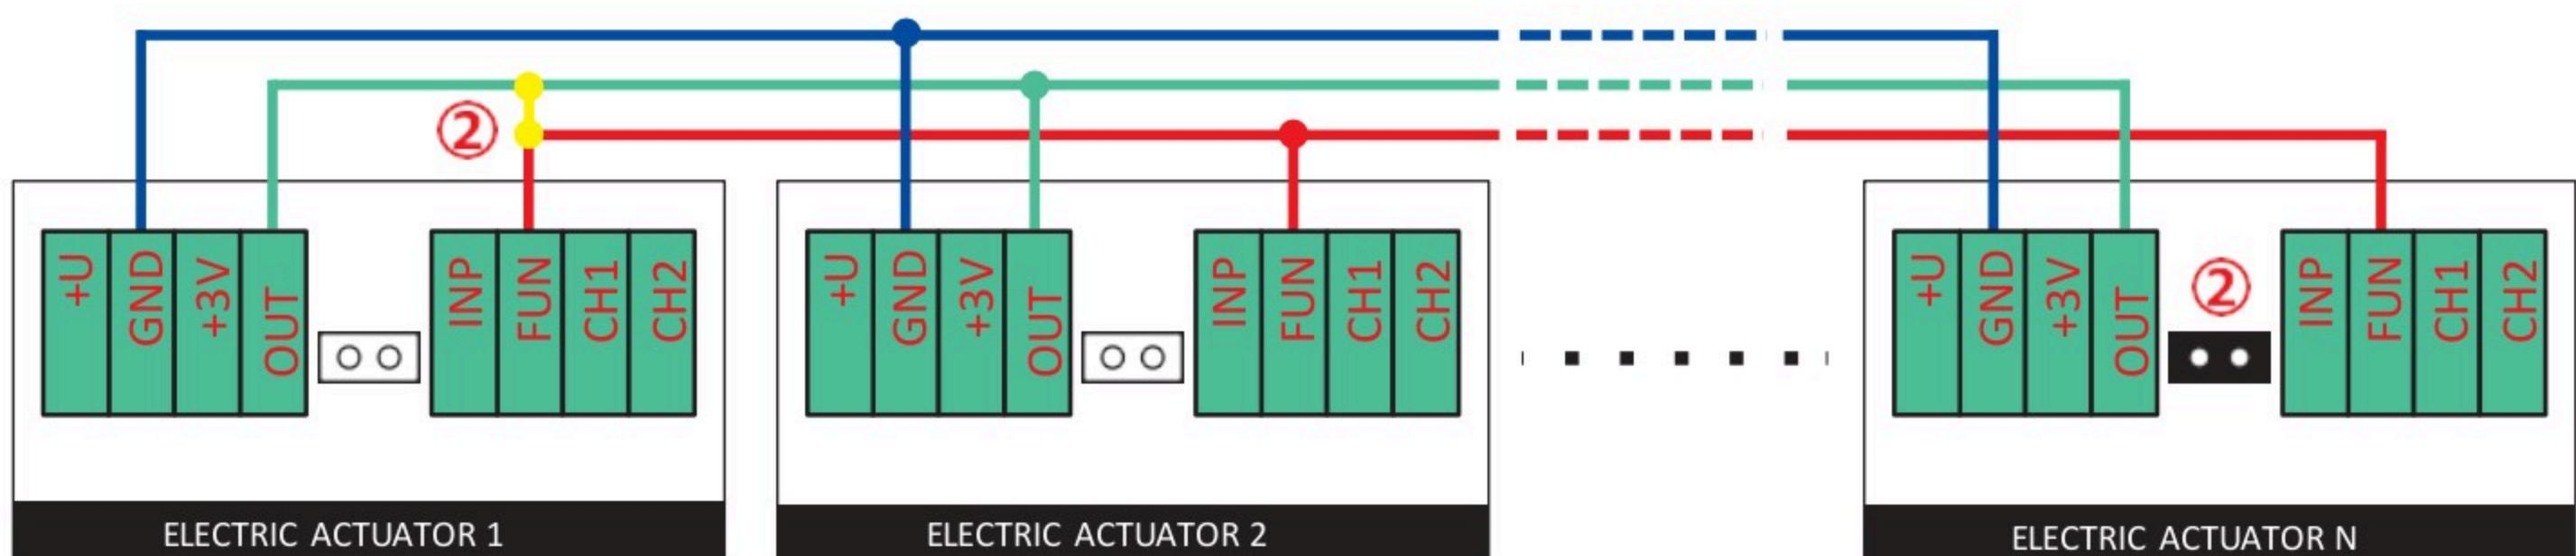

Fig. 2 Integration of several electric ball valve actuators from the GIDROLOCK WINNER RADIO and GIDROLOCK WINNER series
Several electric actuators can be connected to the master device (Fig. 2). Terminals for combining two or more electric actuators into a single system: **OUT**, **GND**, **FUN**.
ATTENTION! In one of the electric actuators, connect the **OUT** and **FUN** terminals together or install a **jumper (2)** (Fig. 2, Photo 6).